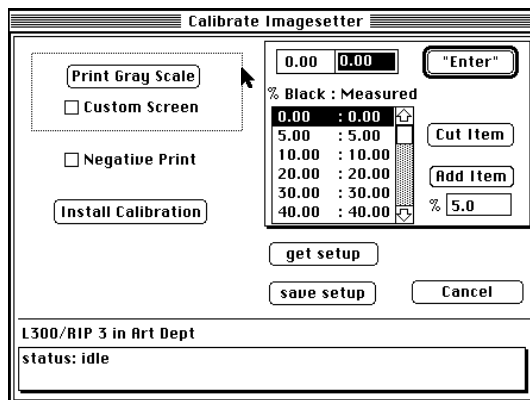

Figure 5 - The calibration portion of the Linotype Utility.
- The *Calibrate Imagesetter* dialog box (see Figure 5) shows a series of dot percent values. If you want to calibrate for a particular screen ruling,³ select *Custom Screen* and change the default value as desired. When you are ready, select *Print Gray Scale* to send the test to the imagesetter.⁴